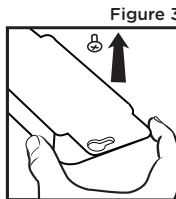
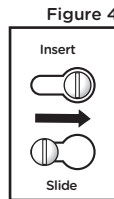

Figure 3
Figure 4
- Secure the switch to mounting surface via keyholes. See **Figure 3** and **Figure 4**. If necessary, tighten screws to secure switch.